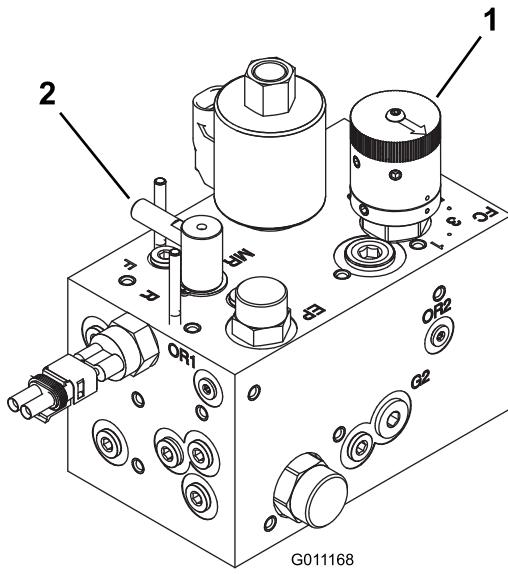

Figure 41
- Turn the reel speed control (Figure 41) to the number setting determined in Step 1.